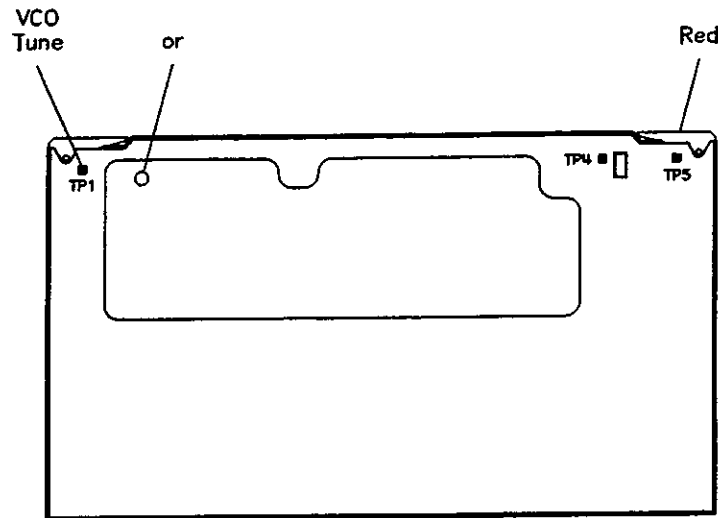

Figure 5-7. VCO Tune Adjustment Location
1. Remove the instrument top cover. If VCO TUNE on the A12 assembly (red extractors) is accessible, continue with step 2. See Figure 5-7. Otherwise, install the A12 assembly on the extender. Use SMB cables as required (the EXT REF cable need not be reconnected now).